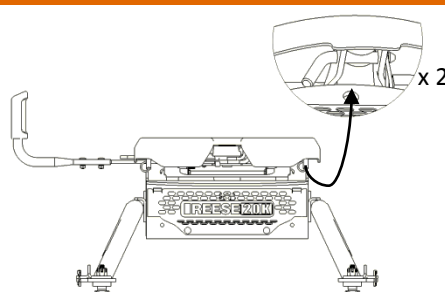

FIG. 6
- In order to ensure quiet performance, apply grease per page 3, figure 9A. Place head unit on top of center section. Insert pull pin as shown in figure 6, and secure with spring clips. Both sides required.